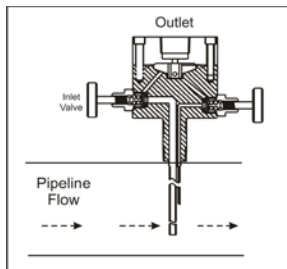

Figure 1
- 2.2.2 Depressurize the pipeline and connect the Liquid Eliminator to the appropriate pipeline port. The inlet valve should be faced against the direction of pipeline flow (see Figure 1).